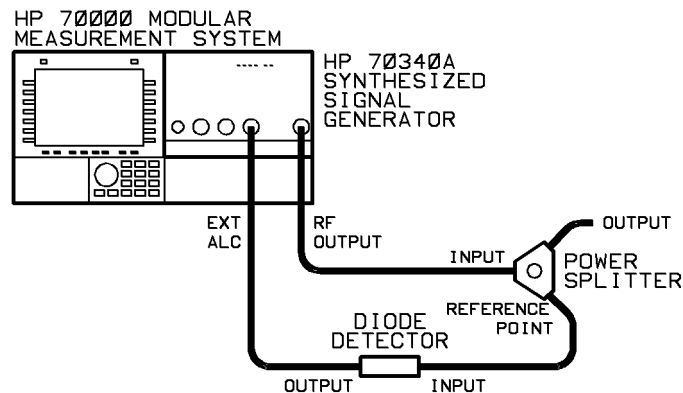

Figure 3-12. External Diode Detector Leveling Setup
1. Connect the equipment as shown in Figure 3-12.